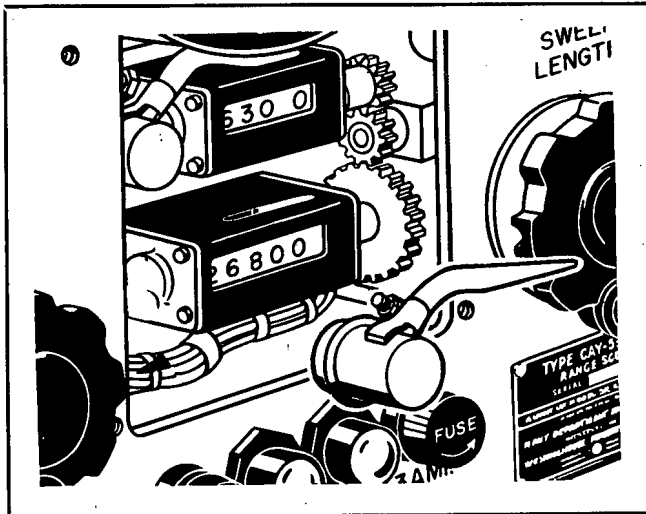

Figure 5-16. Dial Lamp Behind RANGE--YARDS Window on Range Scope
d. The dial lamps behind the RANGE-YARDS window on the Range Scope become accessible when the bezel is removed as shown in Fig. 5-16. The bulbs are encased in a metal cover to which is attached a bent lucite rod to carry the light over to the counter dials. The metal cover is easily removed by pulling it off the lamp base assembly. With the cover removed, the lamps may be twisted out of their sockets and new lamps inserted. The cover assembly is then replaced and the bezel reassembled to the panel and secured with its captive thumb screws.